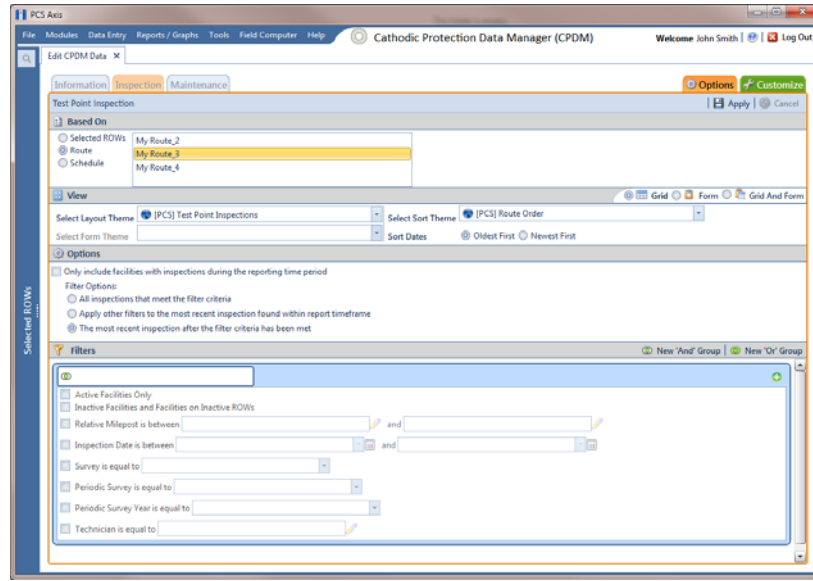

Figure 7-35. Based on Route
- b Click the **Options** tab  to open the options page and then complete the following steps (Figure 7-35, page 244):
- a To change the grid layout theme, click the down arrow in the field **Select Layout Theme** and select a theme in the selection list (Figure 7-35).